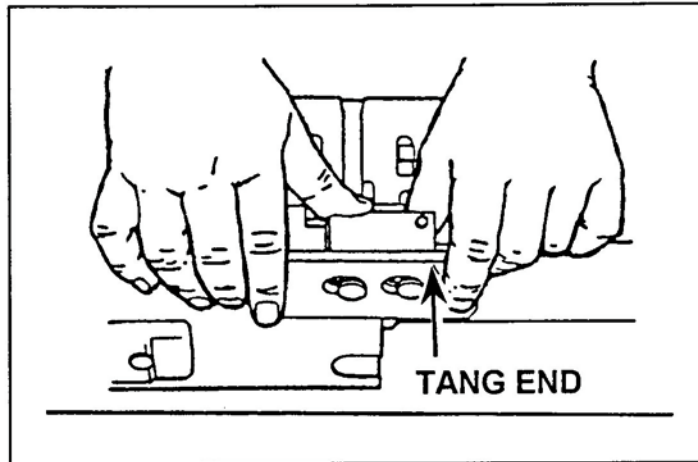

Figure 17. Attachment of the round positioning block.
- b. Attach the round positioning block (Figure 17).